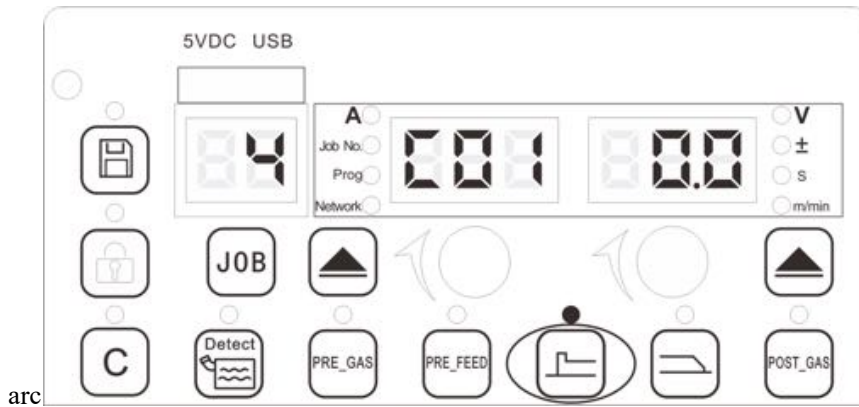

Figure 3-21 Setting view of starting arc parameters
1. Press the “starting arc” button to activate the starting arc function and wait for the indicator turns on, the view for starting arc is shown in Figure 3-21.